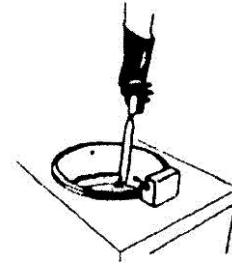

FIGURE 21
Scrape crust line from pot with spatula (FIG.21).
2. **SCRAPE CRUST LINE** from pot with spatula (FIG. 21).